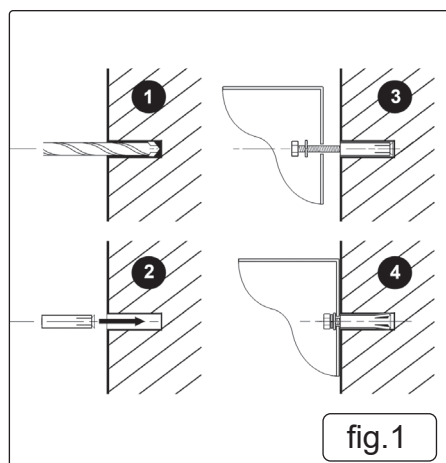

fig.1
- 4.3. **INSTALLATION INSTRUCTIONS** (fig.1)